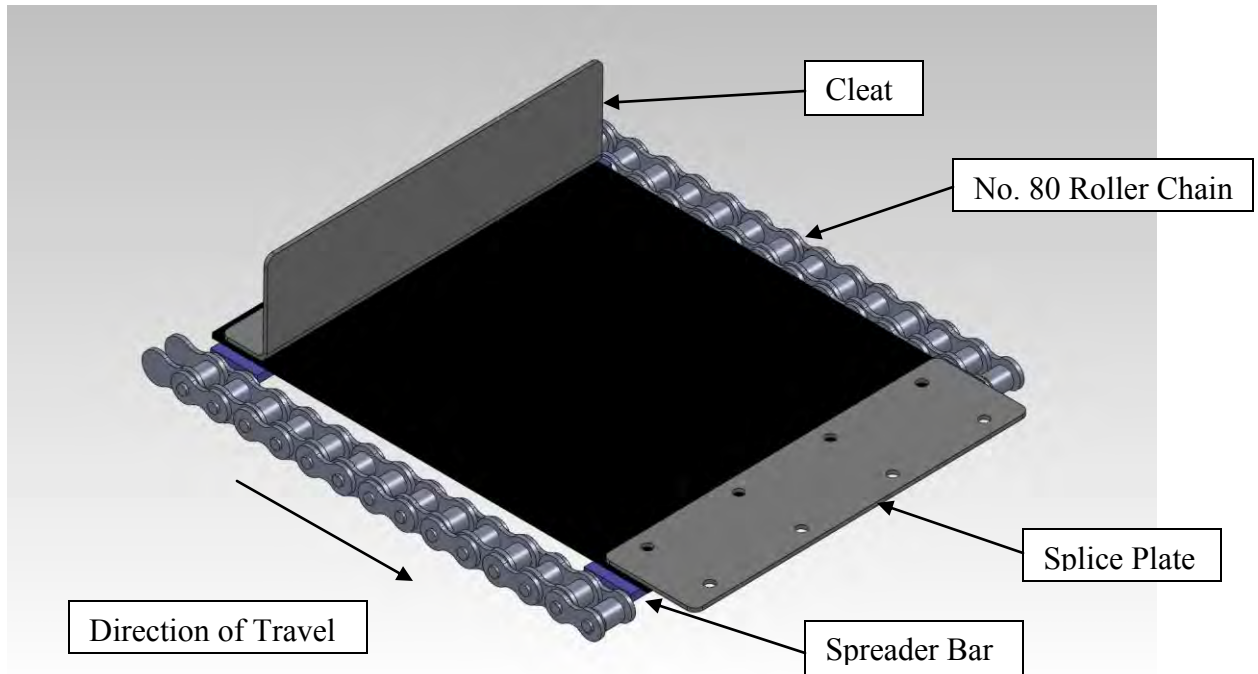

Figure 3 – Conveyor Medium
- The combo belt design consists of using two strands of No. 80 roller chain connected together with a spreader bar welded to each strand at 12.00” centers. The spreader bar has weld nuts for fastening the belt to it. The belt is a 2-ply SBR rubber. There are also cleats fastened to the spreader bars at 24.00” centers. (Figure 3)
3. Feed the belt assembly through the casing, past the tailshaft, and up the incline until it comes up to the headshaft sprockets. Insure cleats are facing correct direction. Refer to Figure 3, page 7.